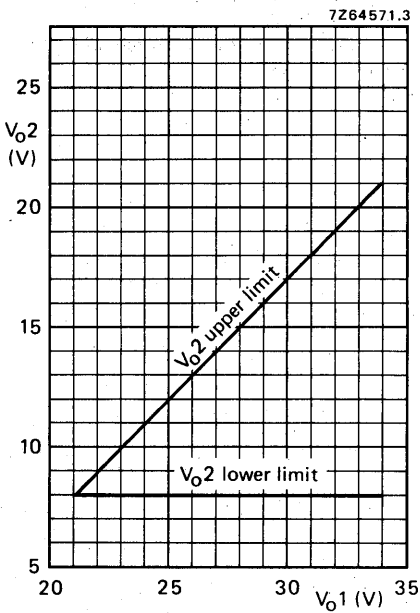

Fig. 6 Range of values for V_{o2} .
10. V_{O2} depends on the value of V_{O1} (see Fig. 6); adjustable with RA2.